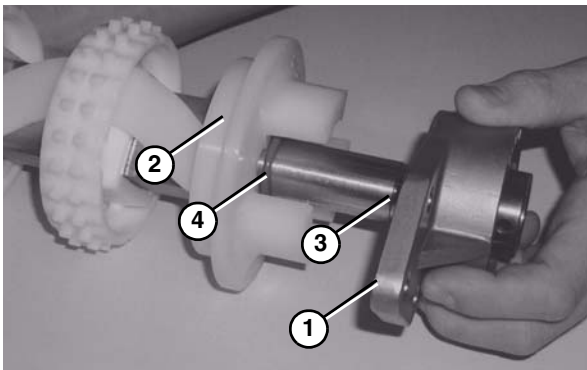

Figure 73
4. Attach O-rings (**Figure 73, item 4**), flanged pucks (**Figure 73, item 2**), washer (**Figure 73, item 3**) and the 3 hole flange with bearing (**Figure 73, item 1**) to the drive spindle.